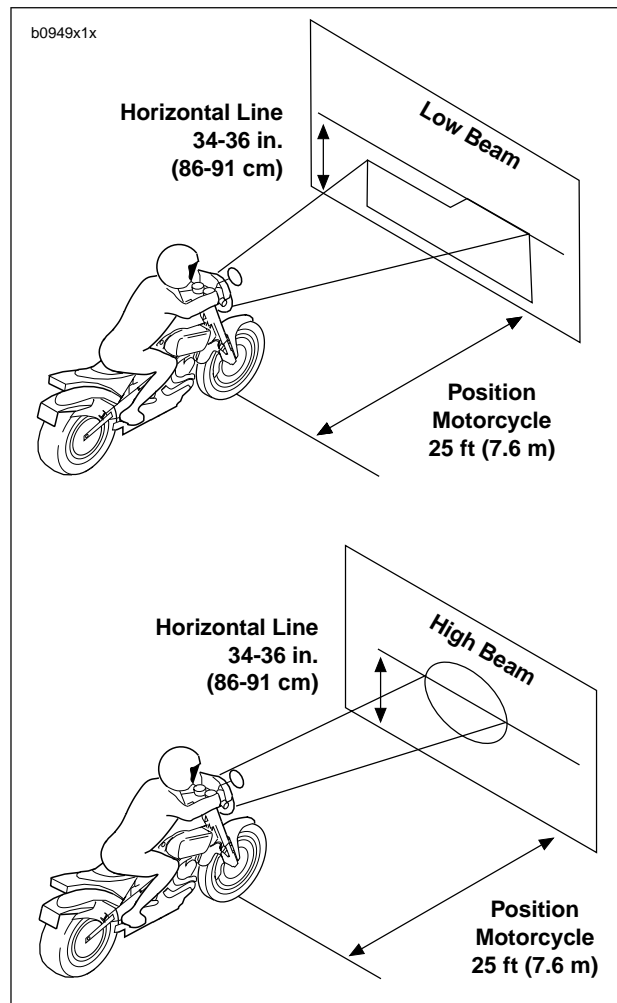

Figure 1-57. Checking Headlight Alignment
2. See Figure 1-57. Position motorcycle 25 ft (7.6 m) away from a screen or wall by measure the distance from the front axle to the screen/wall.
- c. Check that the correct pattern of light is a double rectangular pattern and is aligned with the horizontal line as shown in Figure 1-57.
- b. Check that the correct pattern of light is a circular pattern and is centered on the horizontal line as shown in Figure 1-57.